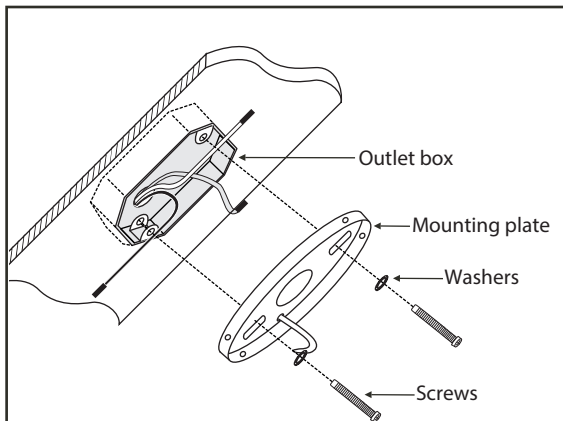

Fig. 1
1. Install mounting plate to outlet box in ceiling using the screws and washers provided with your outlet box. Remove the two canopy mounting screws 180 degrees apart on outside edge of mounting plate. Loosen the 2 remaining screws. This will make installation of the canopy easier in step 5 & 6. (Fig. 1)